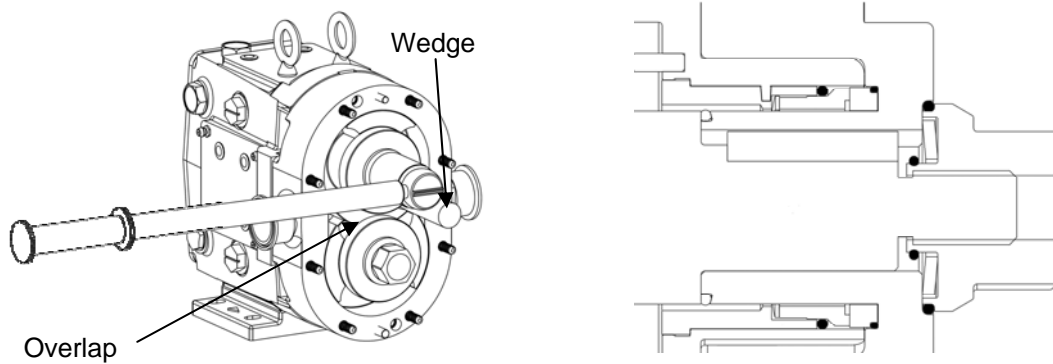

Figure 33: Rotor Assembly
- 7) Thread the nut onto the shaft and tighten it down using the appropriate wrench and a non-metallic wedge to hold the rotor in place (Figure 33). Reference page 23 for rotor nut torque values. Orientate the rotors as seen in Figure 33 and **Always** tighten the first rotor positioned under the overlap of the opposing rotor. Repeat with the second rotor in the same orientation.